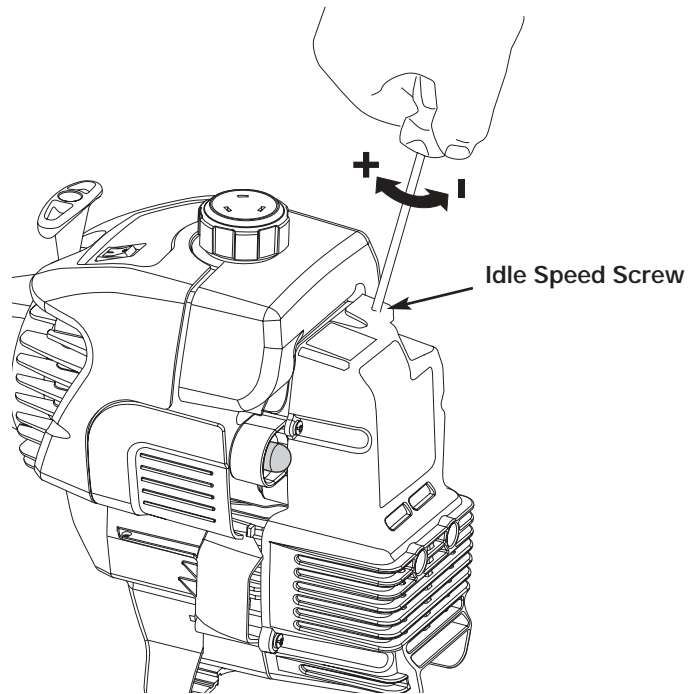

Fig. 32
The idle speed of the engine is adjustable through the air filter/muffler cover (Fig. 32).
2. Release the throttle trigger and let the engine idle. If the engine stops, insert a small phillips or flat blade screwdriver into the hole in the air filter/muffler cover (Fig. 32). Turn the idle speed screw in, **clockwise**, 1/8 of a turn at a time (as needed) until the engine idles smoothly.